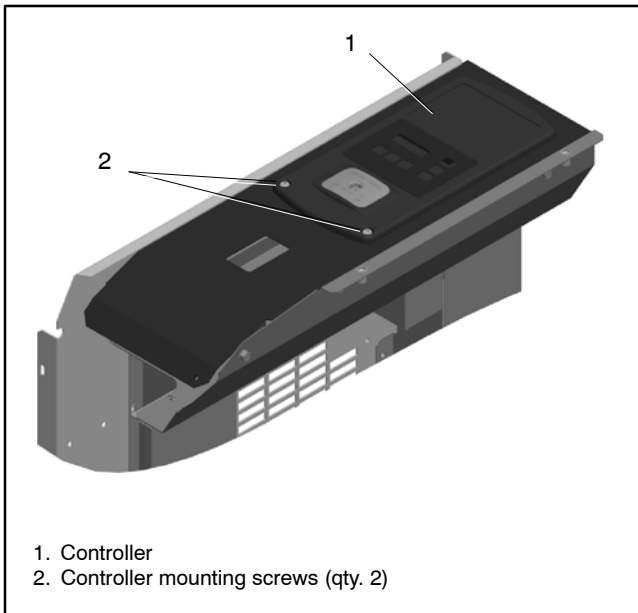

Figure 4-10 Controller Mounting (14/20RESA shown)
5. Remove the two (2) screws securing the controller to the junction box and *carefully* lift the bottom edge of the controller. See Figure 4-10.